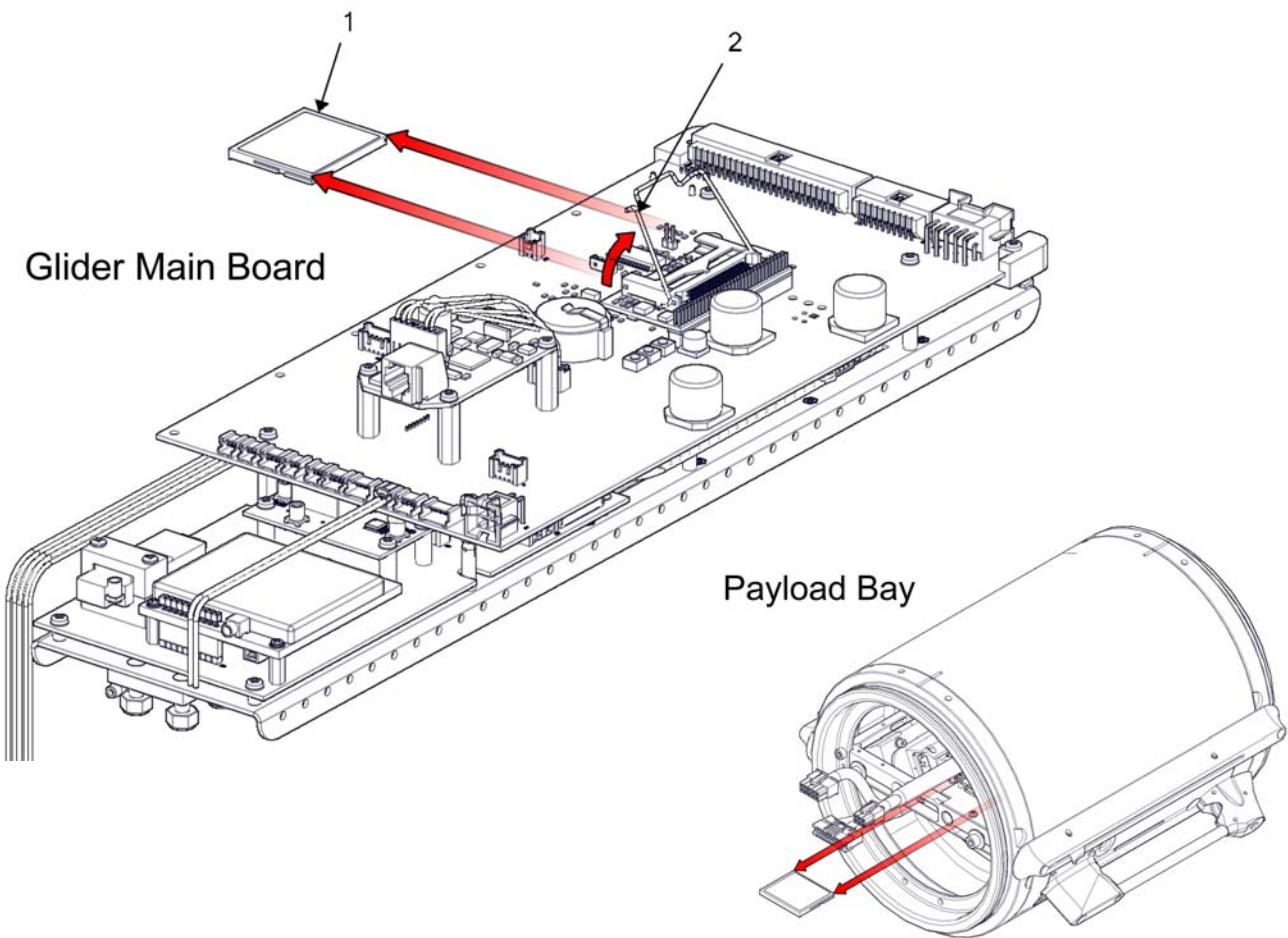

Figure 2-31 Compact flash memory card.
1. Disengage the compact flash memory card retaining clip (Figure 2-31, Item 2).
2. Remove the compact flash memory card (Figure 2-31, Item 1).
1. Install the compact flash memory card (Figure 2-31, Item 1). Ensure that the memory card's metal contacts are facing down, and slide the card into the slot until it is firmly seated.
2. Engage the compact flash memory card retaining clip (Figure 2-31, Item 2).
1. Install the compact flash memory card (Figure 2-31, Item 1). Ensure that the memory card's metal contacts are facing down, and slide the card into slot until it is firmly seated.